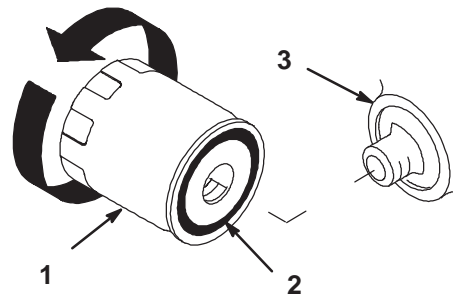

Figure 43
2. Remove the old filter and wipe the filter adapter gasket surface (Fig. 43).
4. Apply a thin coat of new oil to the rubber gasket on the replacement filter (Fig. 43).
5. Install the replacement oil filter to the filter adapter. Turn the oil filter clockwise until the rubber gasket contacts the filter adapter, then tighten the filter an additional 1/2 turn (Fig. 43).